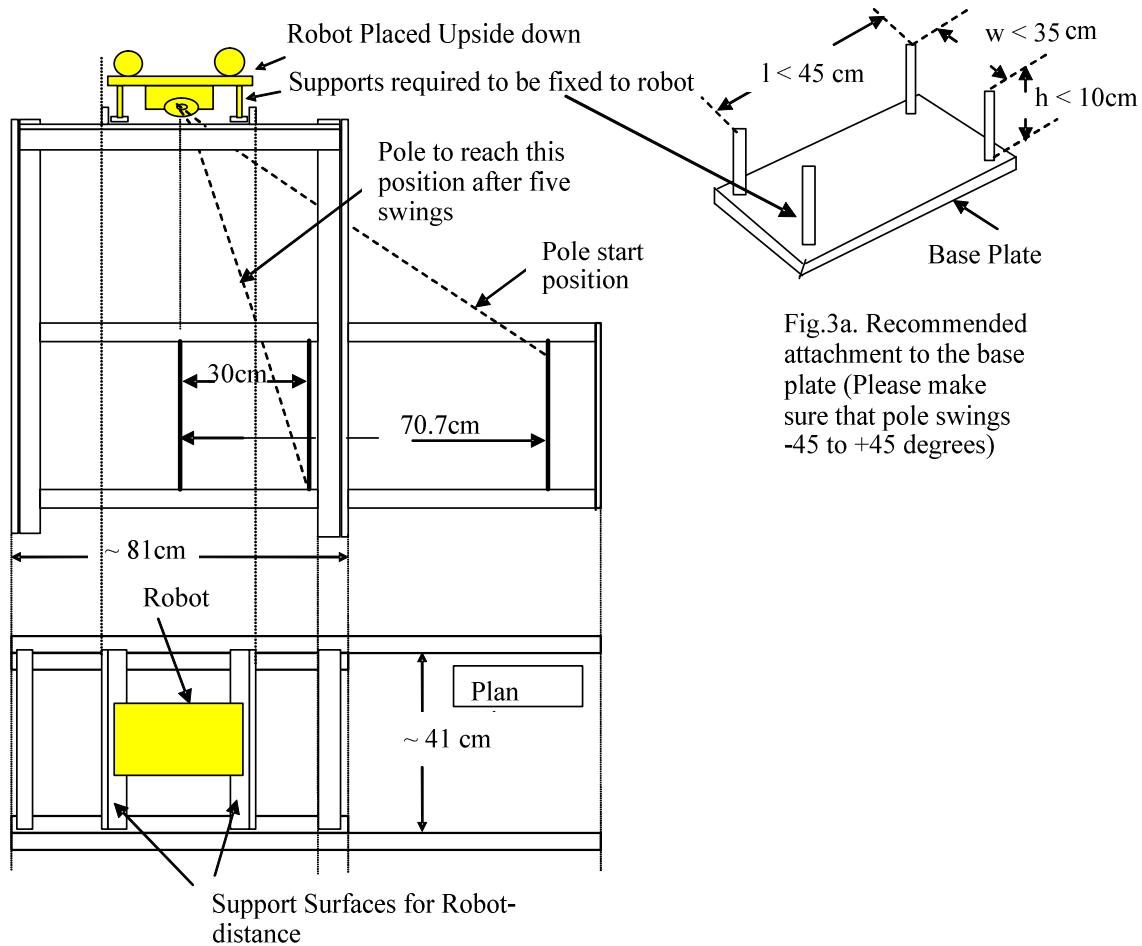

Fig.3. Friction Test Structure
- 4.4. The organizers strongly recommend that the robots have projected supports perpendicular to the base plate at the front and back of the robot, to facilitate easy placement during friction test. See Fig. 3a. The dimensions of the support provided on the robot must be such that the inverted robot can be placed on the friction test structure shown in Fig.3.